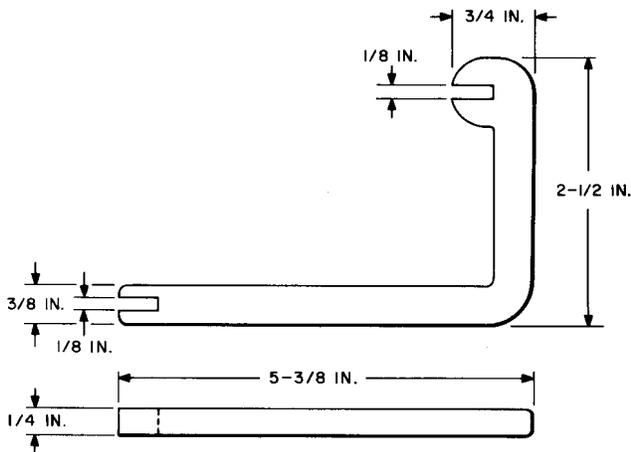

Fig. 6—AECO H-13398-1 Adjuster Tool
**2.06 AECO H-13398-1:** The AECO H-13398-1 tool (Fig. 6) is a vertical armature adjuster used on 197- and 198-type switches. It replaces the AECO H-7056 tool.